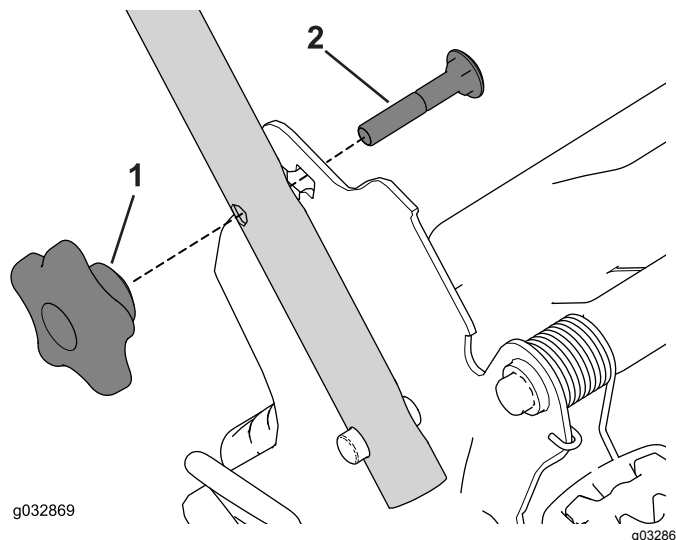

Figure 22
3. Insert the carriage bolt (with the bolt head toward the inside) through the handle bracket and the upper hole in the handle end. Ensure that the square edges of each carriage bolt fits into the upper or lower square hole in its related handle bracket (Figure 22).